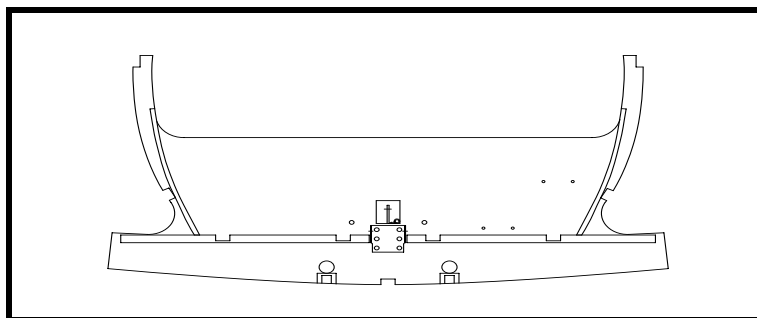

Figure 28
- ❑ On the forward face, install the 10x10 rectangular (or triangular) spruce strips for the inside fuselage side walls as shown on Figure 28. See Drawing No. 315.